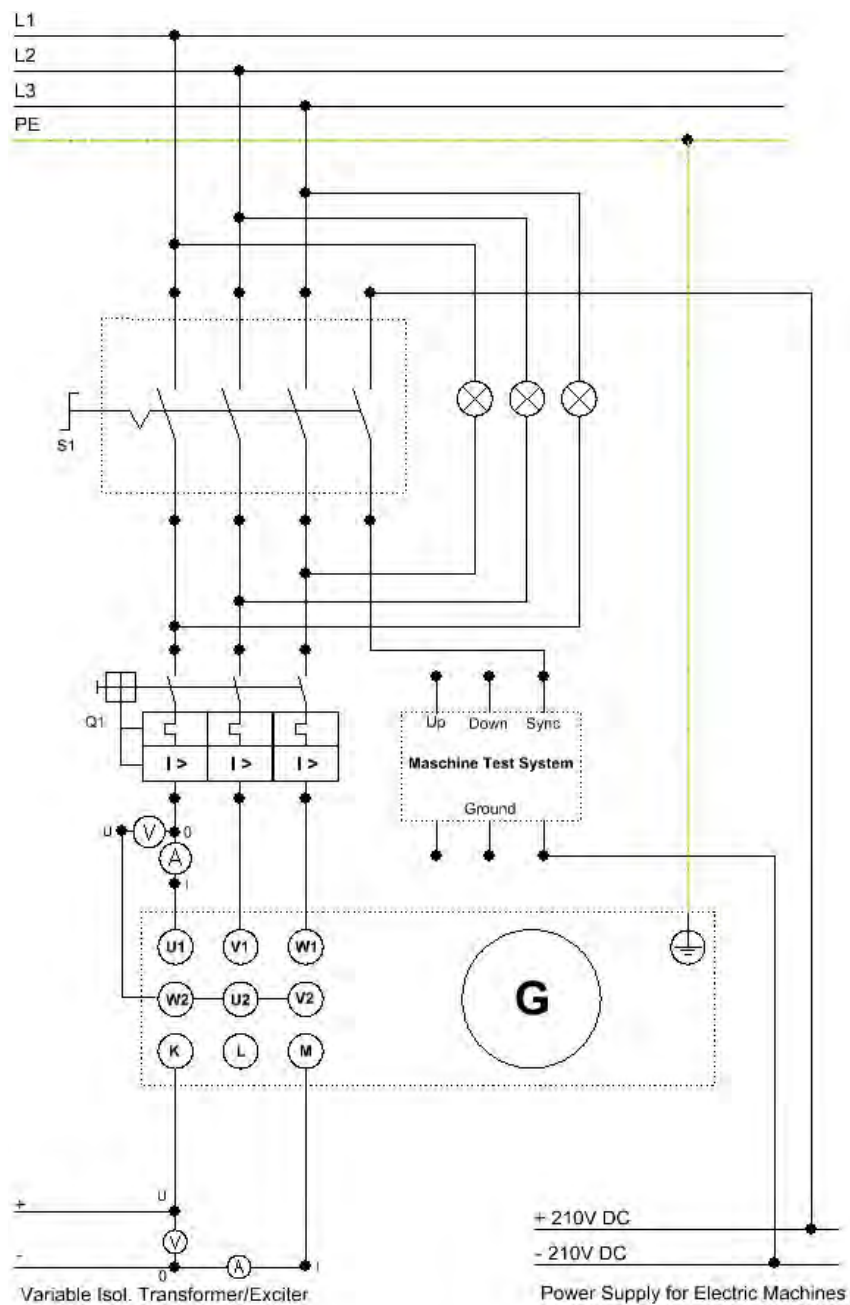

Figure 11:
1. Change the circuit connection in accordance with the circuit diagram of Figure 11.